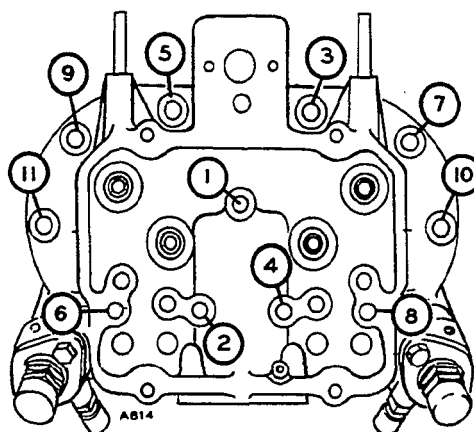

FIGURE 103. HEAD BOLT TORQUE SEQUENCE
5. Install head assembly and gasket to cylinder block. Tighten head bolts to 44 to 46 ft.-lb. (60-62 Nm). Follow sequence in Figure 103 and Steps A through C.
- C. Tighten cylinder head bolts in sequence shown in Figure 103 to 25-30 ft.-lb. (34-41 Nm).